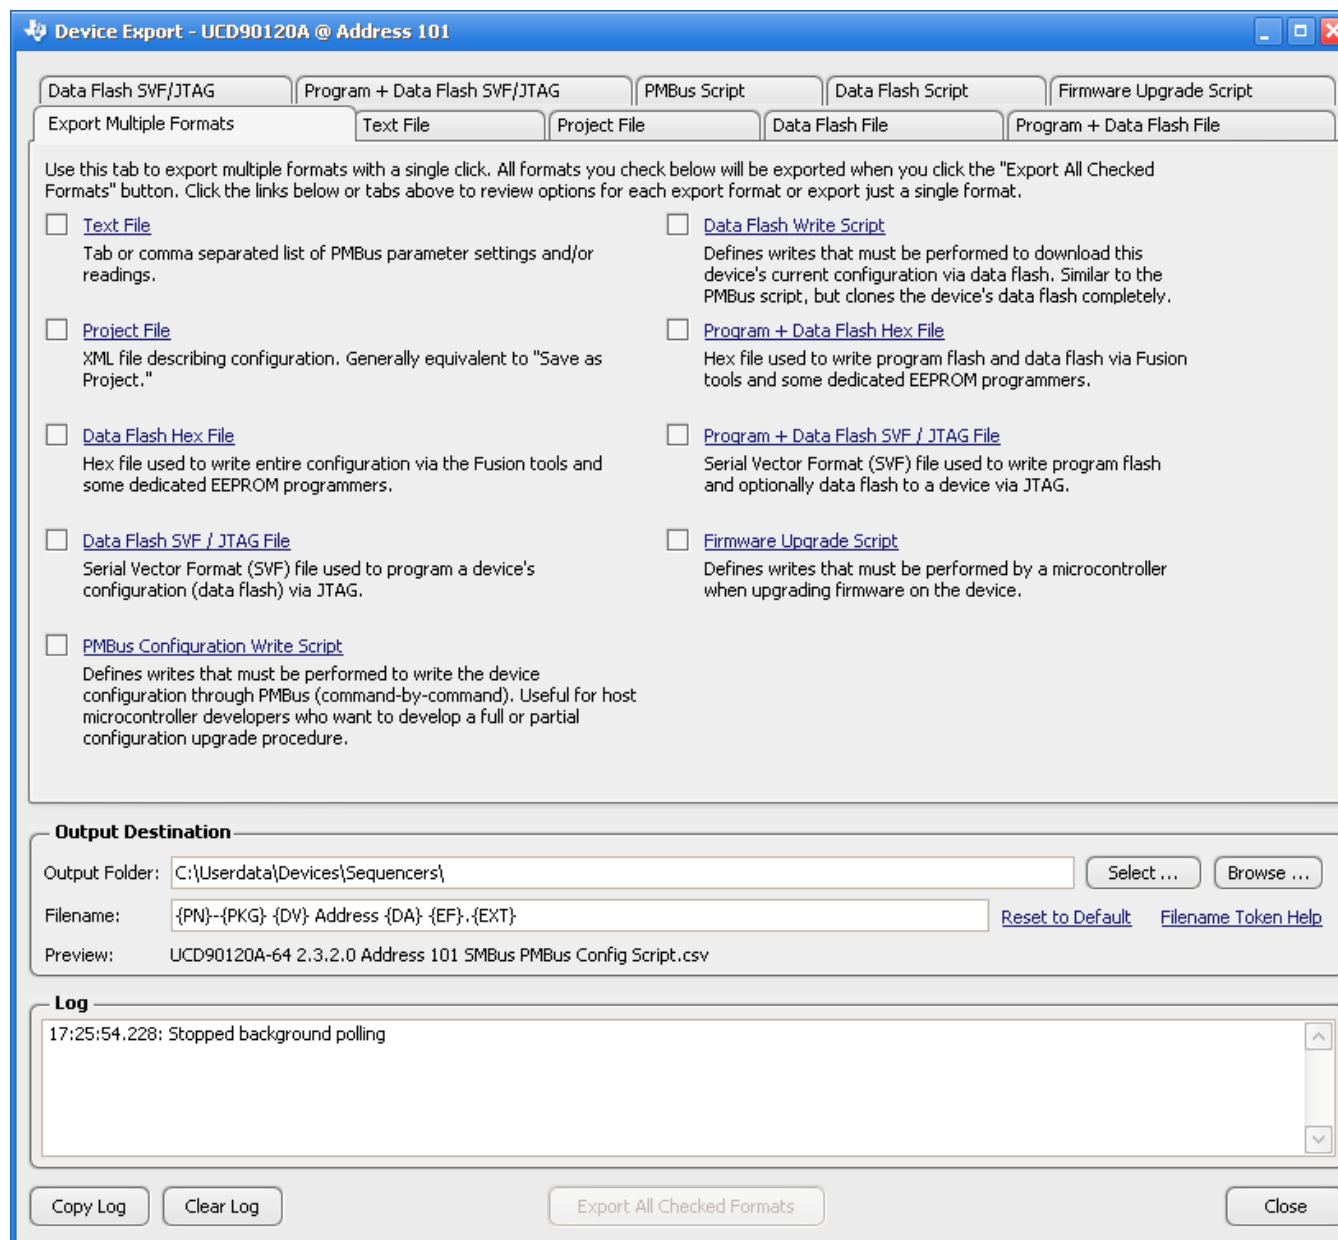

Figure 26. Fusion GUI Device Configuration Export Tool
- Another in-circuit programming option is for the *Fusion GUI* to create a data flash image from the configuration file (Figure 26). The configuration files can be exported in Intel Hex, Serial Vector Format (SVF) and S-record. The image file can be downloaded into the device using I²C or JTAG. The *Fusion GUI* tools can be used on-board if the *Fusion GUI* can gain ownership of the target board I²C bus.